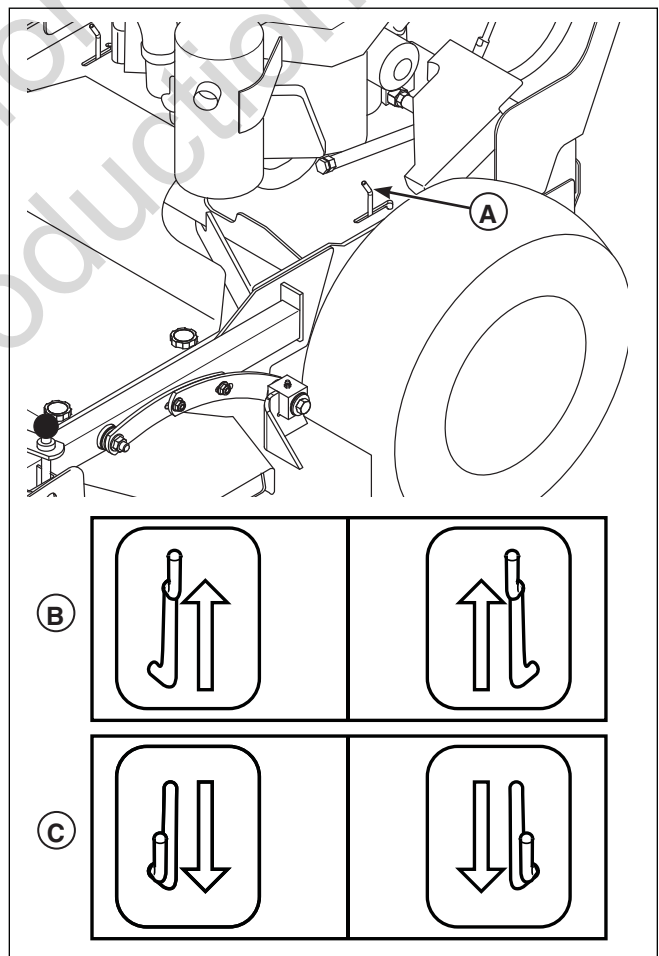

Figure 7. Transmission Release Levers (LH Shown)
2. Locate the transmission release levers (A, Figure 7) by the rear wheels of the unit.